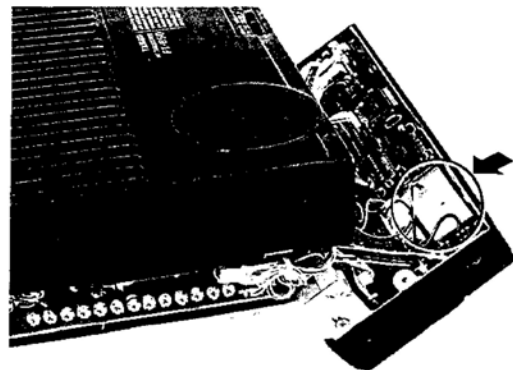

Figure 4.
11. Undo all 4 screws holding front panel to chassis and pull down the front panel as seen in Figure 4 below, carefully arrange it so you can access the bottom of the Display Unit.